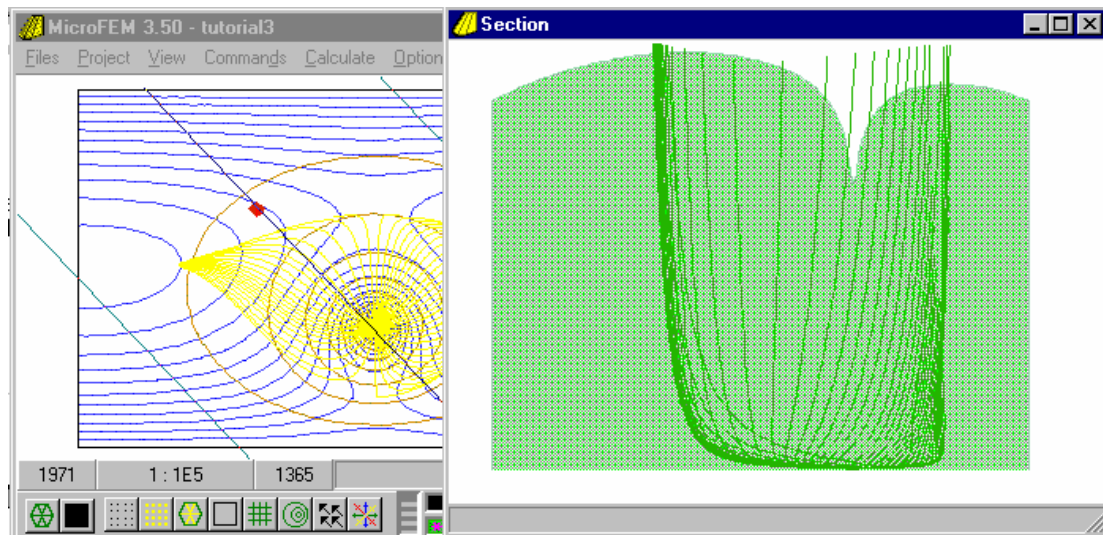

Figure 56: Cross section with 3D-flowlines (2)
3. Once the OK-button on this Section Options window is clicked, the cross section looks like Figure 56:
One may wonder why in Figure 56 most flowlines end higher than the groundwater table. Well, that is due to the fact that all (parts of) flowlines within the flowline area are simply projected onto the vertical plane through the cross-section trace. The upper ends of the flowlines are determined by the water table level at the boundary of the capture zone.